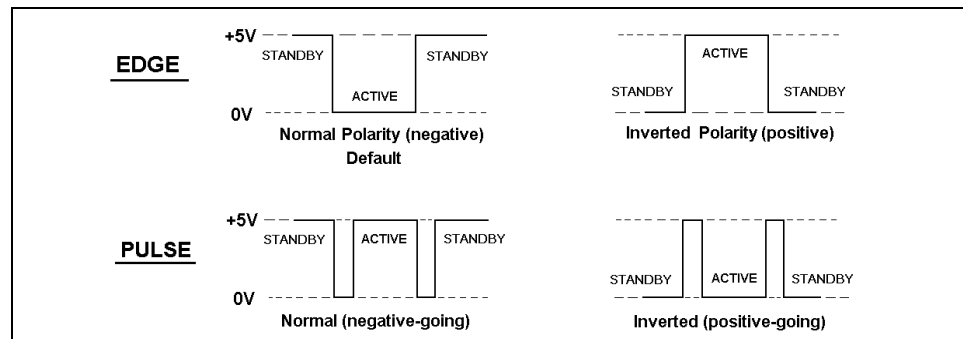

Figure E-1. TTL and Relay Input Signal Modes
- *Normal Edge*: In normal edge operation, the negative (falling) edge of a signal switches the oven to active and the positive (rising) edge switches the oven to standby (see Figure E-1).
- *Normal Pulse*: In normal pulse operation, the negative edge of a signal toggles the oven's Active/Standby state and the positive edge has no effect (see Figure E-1). For example, applying a negative pulse when the oven is in Standby toggles the oven to Active status.